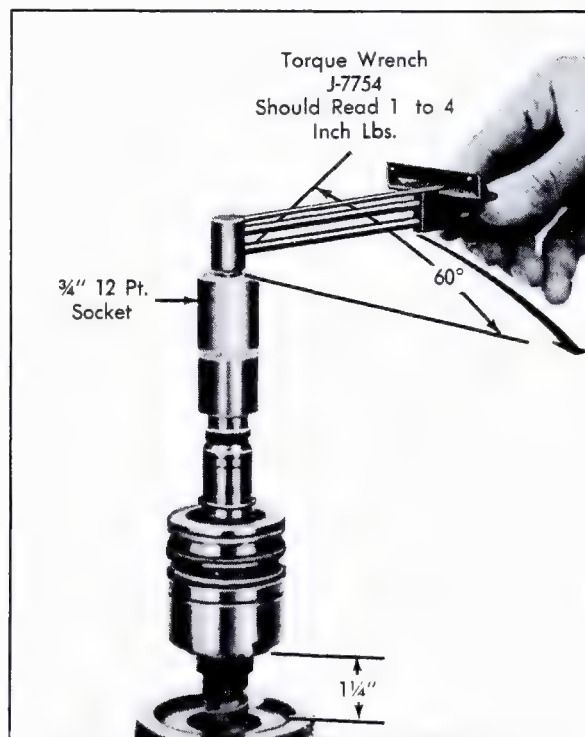

Fig. 9-32 Checking Worm and Rack Piston Preload
d. Place Torque Wrench, J-7754, with a 3/4 inch 12-point socket on stub shaft, Fig. 9-32, and rotate wrench through an arc of approximately 60° in both directions several times, then take a torque reading. Highest average reading obtained with worm rotating should be between 1 and 4 inch-pounds.